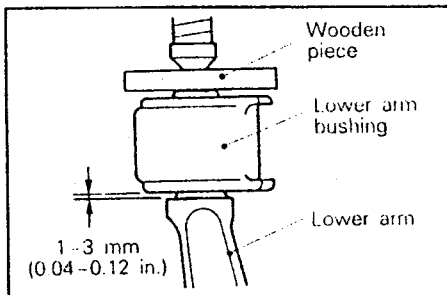

Fig. 10.8 — Fitting the bush over the suspension arm spigot.
- The bush must now be pressed over the spigot. As you can see from Fig. 10.8 there must be a gap of 1 to 3 mm between the arm and the end face of the bush. To obtain this gap, use a feeler gauge of the given thickness. Press the bush over the arm as shown in the illustration. When the gap is nearly closed, insert the feeler gauge and press the bush fully in position until the feeler gauge can just be removed.